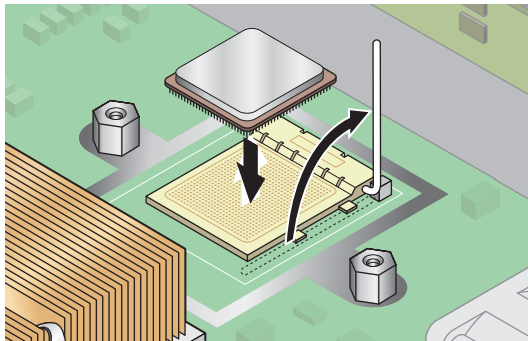

FIGURE 5-29 Installing a CPU in its Socket
2. Ensure that the socket release lever is in the fully open, perpendicular position (see FIGURE 5-29).
5. When the CPU is fully seated in the socket, rotate the socket release lever down until it snaps into place, securing the CPU in the socket (see FIGURE 5-29).